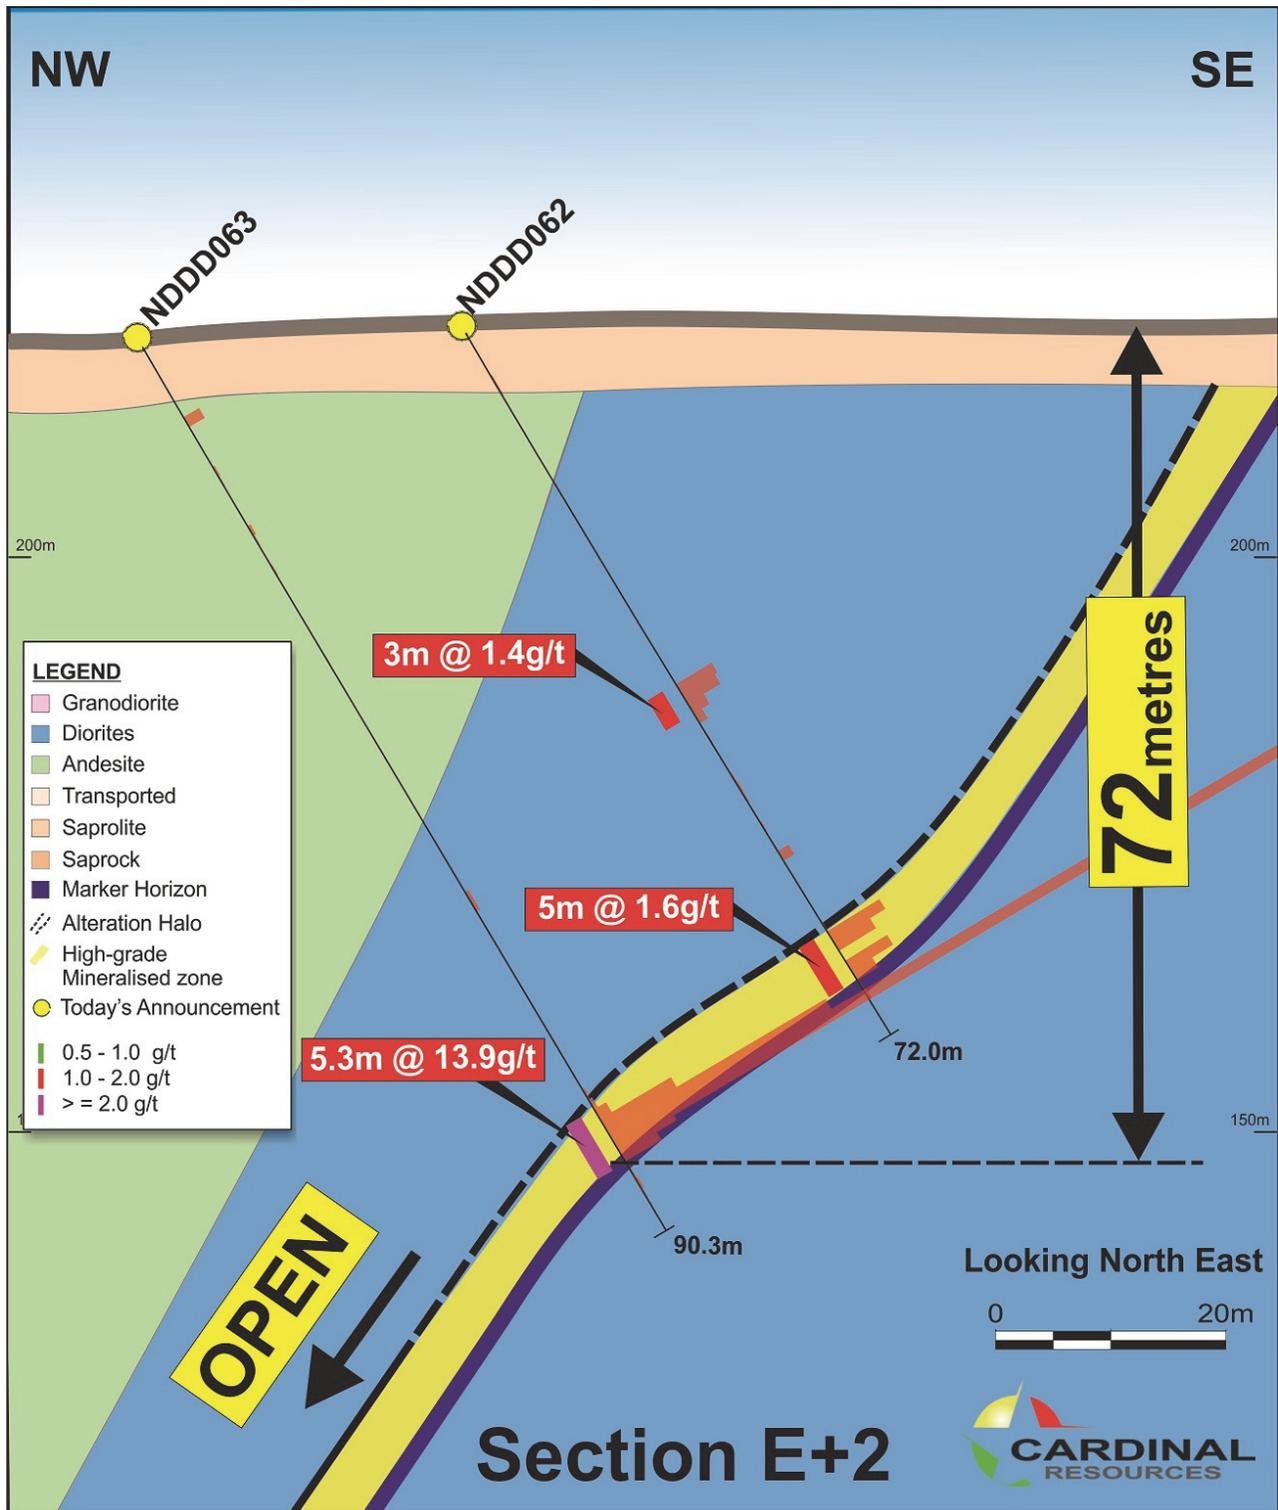

Figure 3: Ndongo East Prospect Section E+2 – E+2
A marker horizon comprising a very narrow, thinly bedded, black pyritic mudstone has been observed to occur at the base of the mineralised intersections within the metavolcanics (Figures 3, 4, 5 and 6) and could mark a hiatus in the continuation of volcanic activity in the area. Although this marker horizon appears to be unrelated to mineralisation within the metavolcanics, it will be a very useful marker as more shallow diamond drilling is completed further along strike.
The high-grade mineralised structures have been tested to a shallow depth of approximately 70m vertically below surface (Figures 3,4,5 and 6). The Company plans to steadily increase exploration at Ndongo East after evaluating further drill core and assay results to determine the strike and depth extents of the mineralised system as well as the structural components of the various lithological units. Furthermore, Infill auger drilling and Gradient Array IP (GAIP) geophysical surveys commenced over the Ndongo East deposit and its southern extension of ~7km strike length to delineate additional drill targets within this structurally controlled mineralised shear system.
**Drill Section E+2 – E+2** (Figure 3) comprises drill holes NDDD062 and NDDD063. These two drill holes have intersected shallow gold mineralisation to a vertical depth of 72m with the mineralised halos between 5m to 6m wide with very encouraging grades. Refer to the full results in Table 2 in Schedule 1.